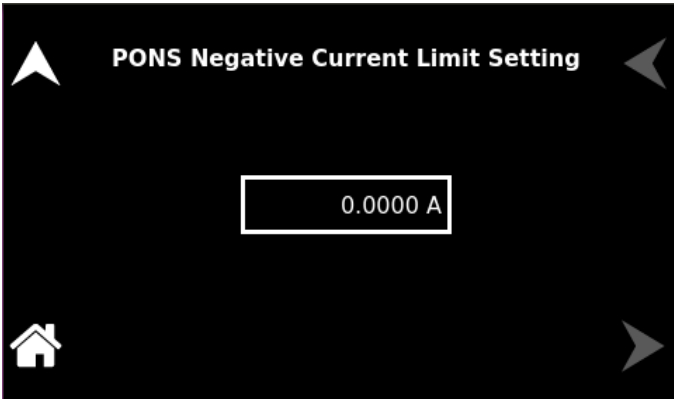

Figure 10-133. Negative Current limit setting screen
**PONS Neg. Current Limit** Users can set a negative current limit value, and which functions as a trip limit. Refer to Figure 10-133.